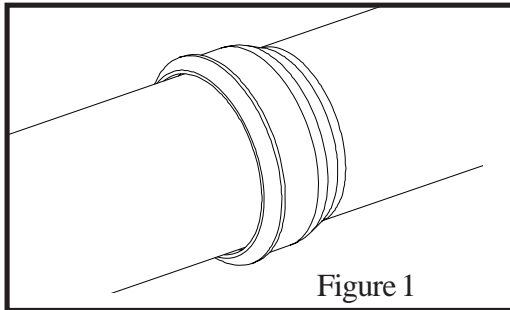

Figure 1
- Wrap gasket around pipe with beveled side facing away from bell face and connect ends. Gasket is provided with an extension piece which is only to be used on larger diameter class C-D pipe. (See Figure 1)
- Wrap gasket around pipe with beveled side facing away from bell face. (See Figure 1)